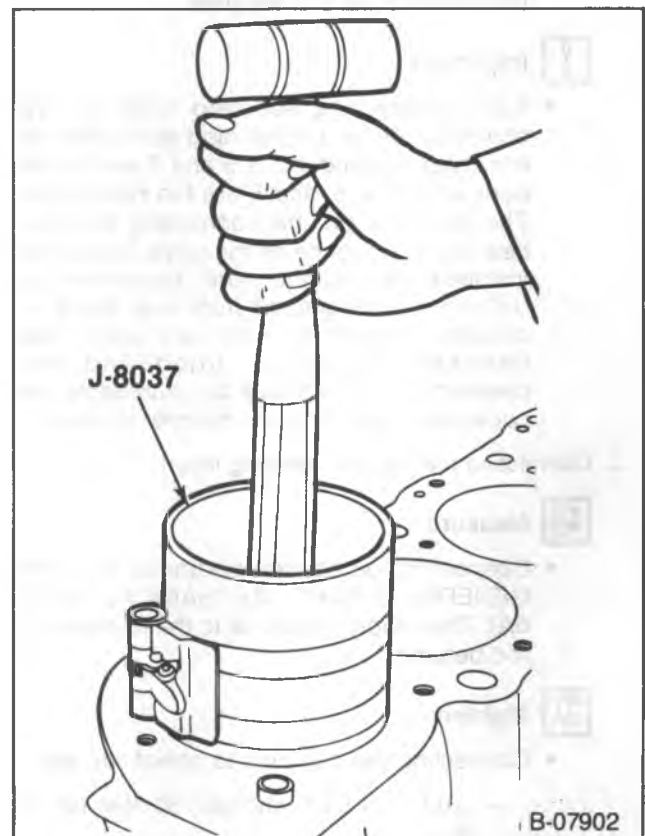

Figure 64—Installing the Piston
- Without disturbing the ring end gap location, install J 8037 over the piston (figure 64).